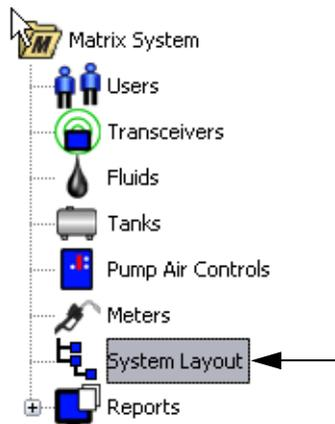

FIG. 90
1. To display the main System Layout setup screen, select **System Layout** from the list on the Matrix System Panel (FIG. 90). Before you setup the System Layout you must first add tanks (page 61) and meters (page 70).